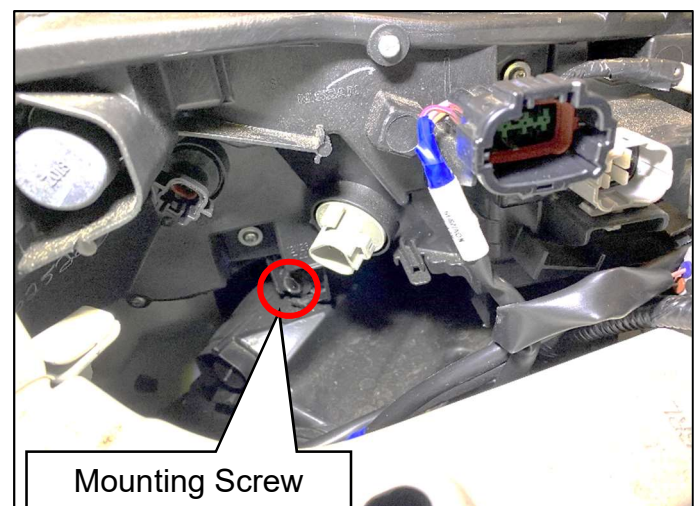

Figure 18
18. Install one (1) mounting bolt on the back of the combination lamp. (Figure 18)